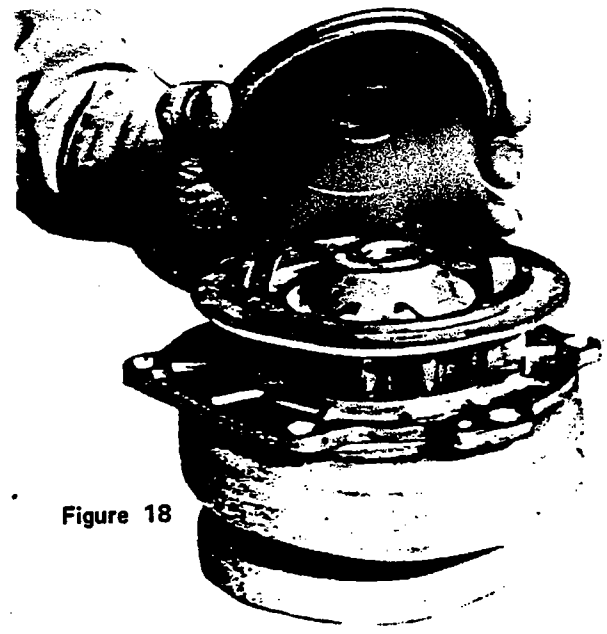

Figure 18
E. Place the bearing housing on level blocks (or support on turbine housing) with the turbine end upward. Position the spring ring in the recess provided as shown in Fig. 18. Position the turbine heat shield on the spring ring with the larger opening downward.